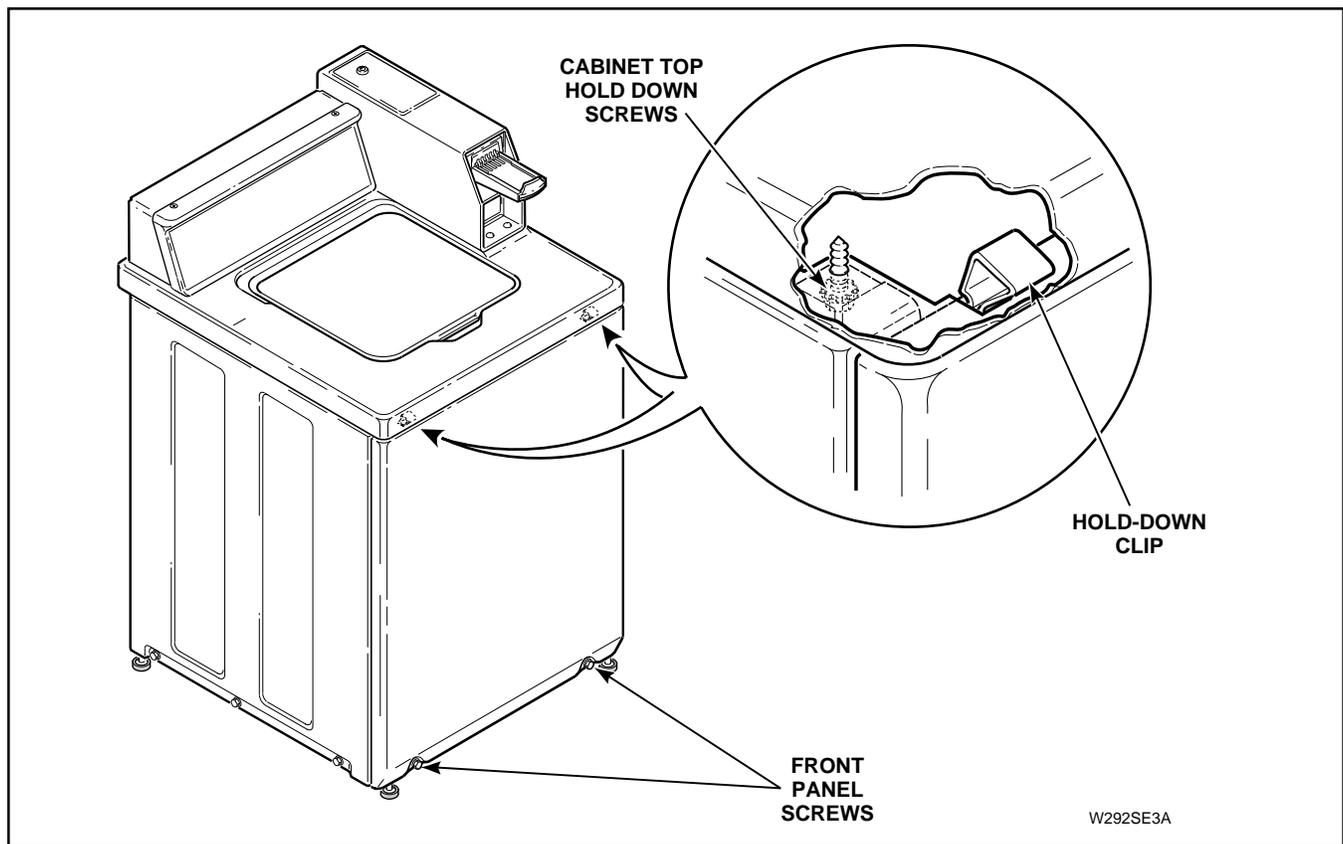

Figure 16
5. Remove two cabinet top hold down screws, *Figure 16*.
### 10. FRONT PANEL (Figure 16)
- Remove two screws from bottom edge of front panel, Figure 16.
- Remove two screws from bottom edge of front panel, *Figure 16*.
- a. Remove two screws from bottom edge of front panel, *Figure 16*.